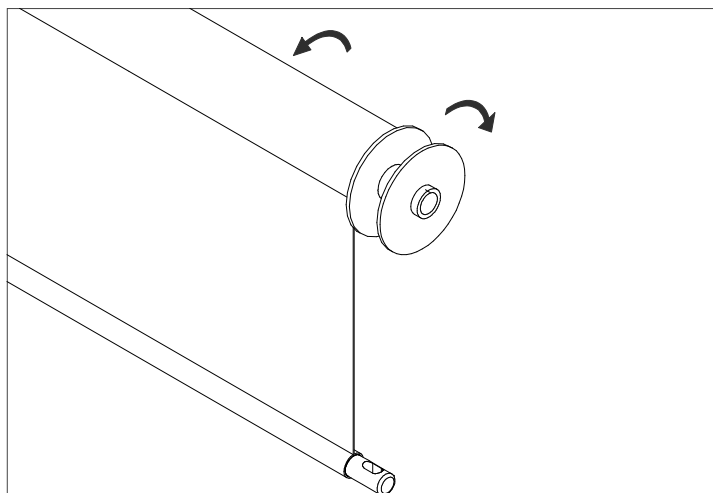

Fig. 4-1
- The curtain may be positioned with the spooler on either the left or right side, and the curtain may roll either under or over the roller tube. Arrange the curtain as desired, then check the direction of the pull string. The pull string must roll the opposite direction of the curtain as shown in Fig. 4-1. If necessary, unwind the pull string and roll the correct direction.